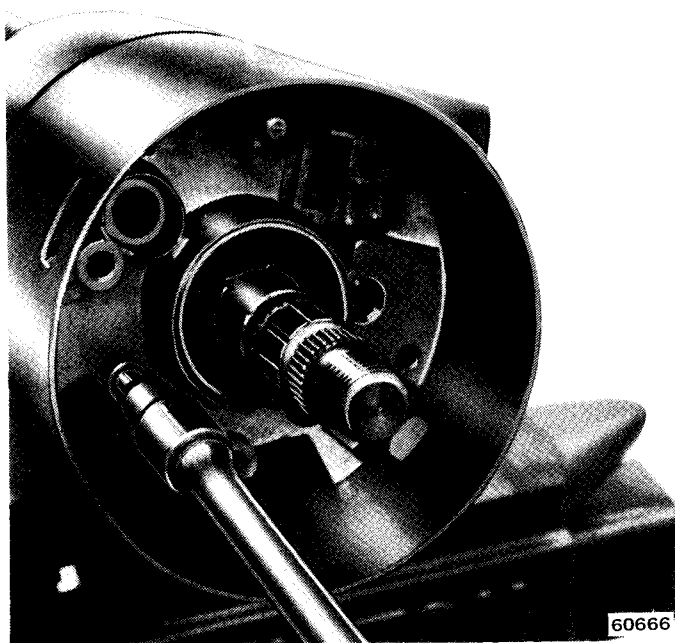

Fig. 11-12 Removing-Installing Housing
(15) Remove four screws attaching housing and shroud to jacket (fig. 11-12) and remove housing and shroud.
(16) Disengage remote rod from rack.
(8) Install shroud on housing and install three attaching screws. Tighten screws to 18 inch-pounds torque. Do not displace wave washer when assembling shroud and housing.
(9) Install remote rod on lock rack. Short hooked end of rod goes in rack.
(10) Install assembled shroud and housing on jacket and install four attaching screws (fig. 11-12). Tighten screws to 60 inch-pounds torque.